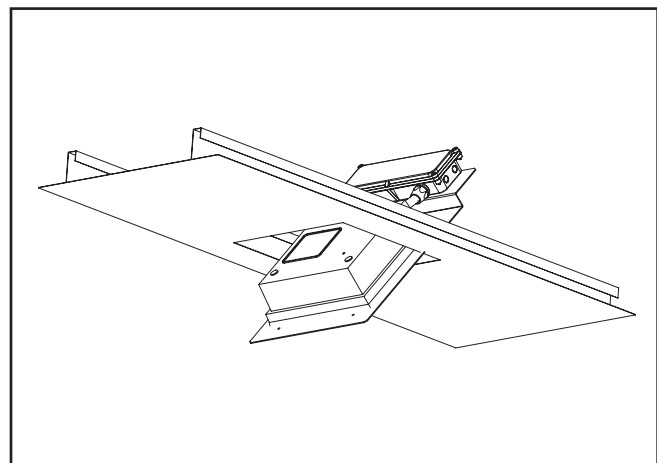

Figure 3.
12. Insert fixture through the canopy opening diagonally (Figure 3) and rest it on top side of the canopy. Make sure the splice conduit does not get caught under the fixture during installation.